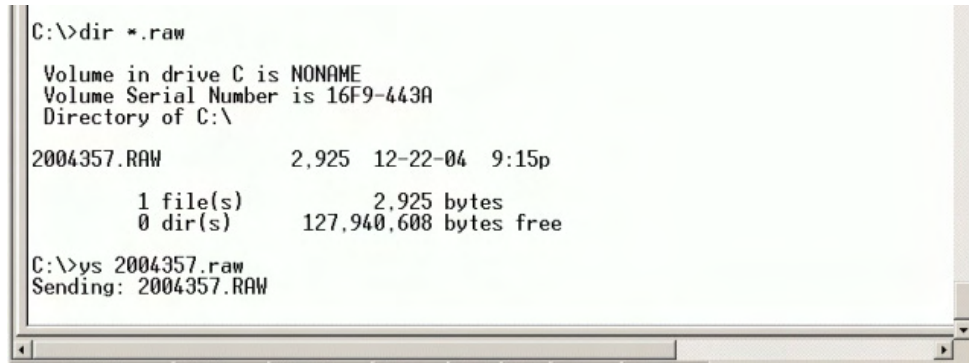

Figure 36 - Transferring data files
- Use the PicoDOS ymodem transfer program to send the files. At the **C:\>** prompt, type **ys filename.raw** and then press **Enter**, where filename is the name of the data file. The example shown below, Figure 36, demonstrates downloading the log file 2004357.raw.